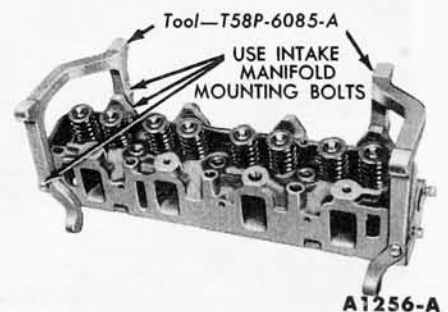

FIG. 26—Cylinder Head Holding Fixtures
3. Remove the cylinder head bolts. Install the cylinder head holding fixtures (Fig. 26).